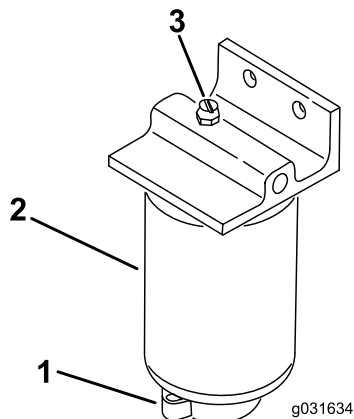

Figure 53
2. Loosen the drain valve on the bottom of the filter (Figure 53).
1. Clean the area where the filter mounts (Figure 53).